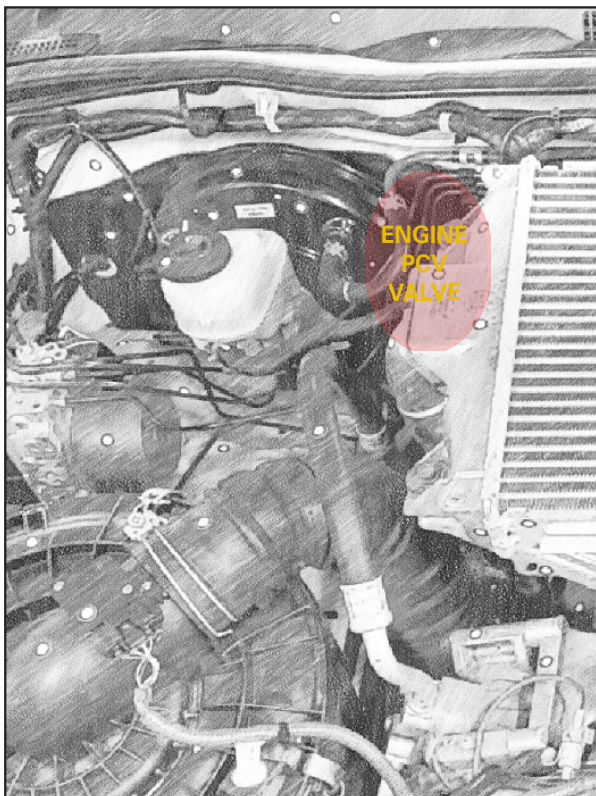
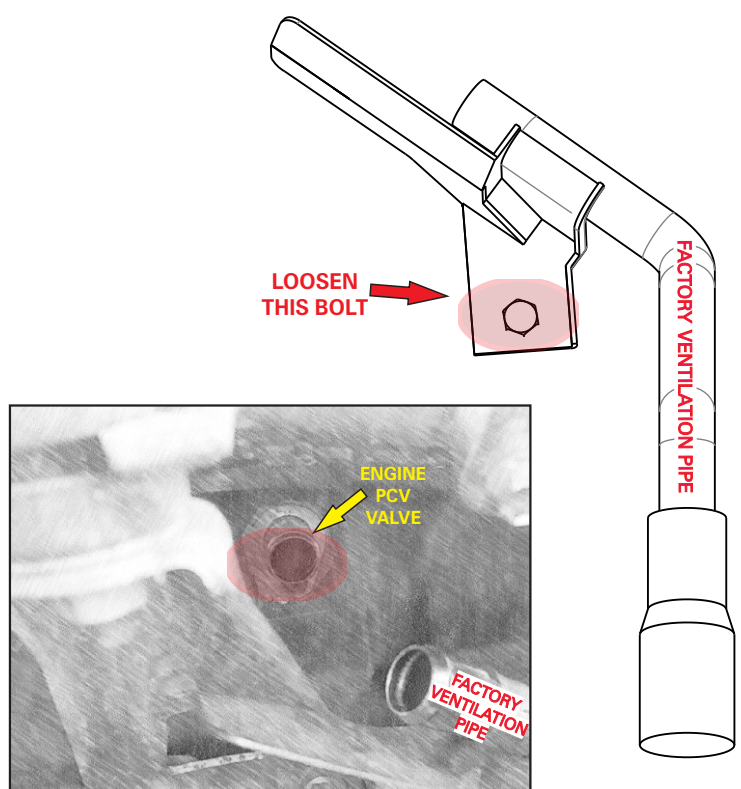

FIG. 8a ENGINE PCV VALVE
FIG. 8b ENGINE PCV VALVE AND VENTILATION PIPE
3. Locate the factory PCV valve on the driver side engine rocker cover (under the intercooler), as per Fig. 8 below. Undo the factory bolt to loosen the bracket on the factory metal PCV ventilation pipe. Remove the factory rubber ventilation hose from the PCV outlet and store for safe keeping, as shown in Fig 8a and Fig. 8b.